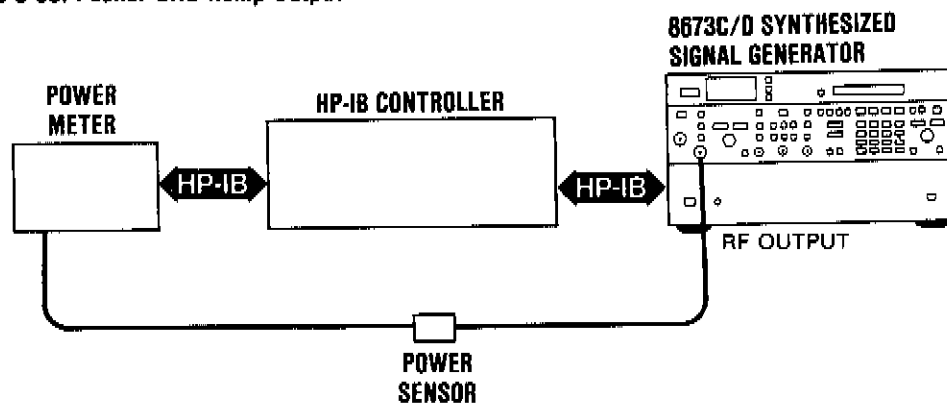

Figure 8-40. Final Output Power Check Test Setup
22. Connect equipment as shown in Figure 8-40. With the HP 8673C/D Adjustment Cassette still installed (See Step 12) run the following power plots, as appropriate: